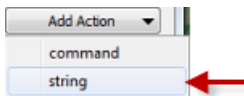

FIG. 388 Add Action - string
4. Click **Add Action** and select **string** from the drop-down menu (FIG. 388):